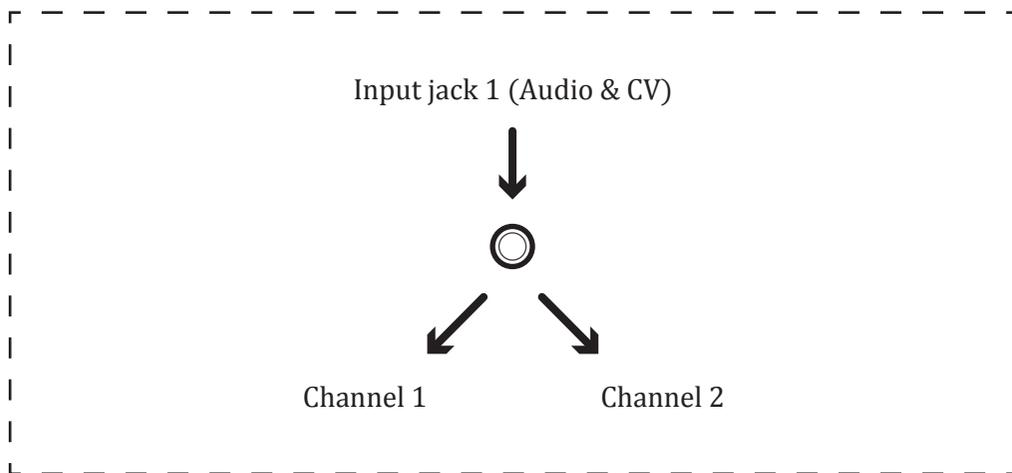

FIG.3: When using only CV 1 input (Normalized)
CV input 1 is normalized (internally connected) to CV 2. "Normalization" means that if you are not using CV 2, the input to CV 1 will be automatically duplicated to CV 2. In other words, you can control two CV from one cable input(See FIG. 3). This feature economizes the need to duplicate signals using external multiple modules. This normalization function works similarly for ⑥ "IN 1" input. When the plug is not plugged in ⑦ "IN 2", the input from "IN 1" is copied to channel 2.